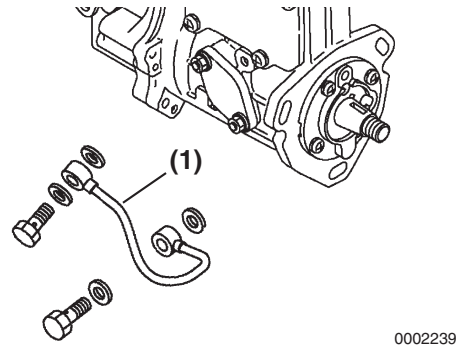

Figure 7-9
12. Remove the lube oil line (**Figure 7-9, (1)**) from the fuel injection pump and cylinder block.